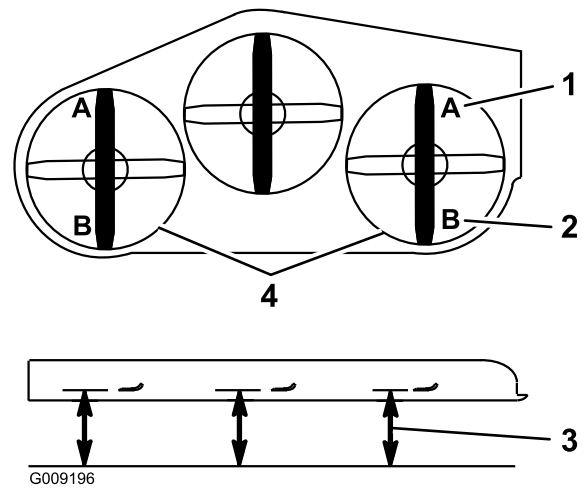

Figure 96
9. On both sides of the deck, measure from the level surface to the front tip of the blade (Position A) as shown in Figure 96.
15. On both sides of the deck, measure from the level surface to the back tip of the blade (position B) as shown in Figure 96.